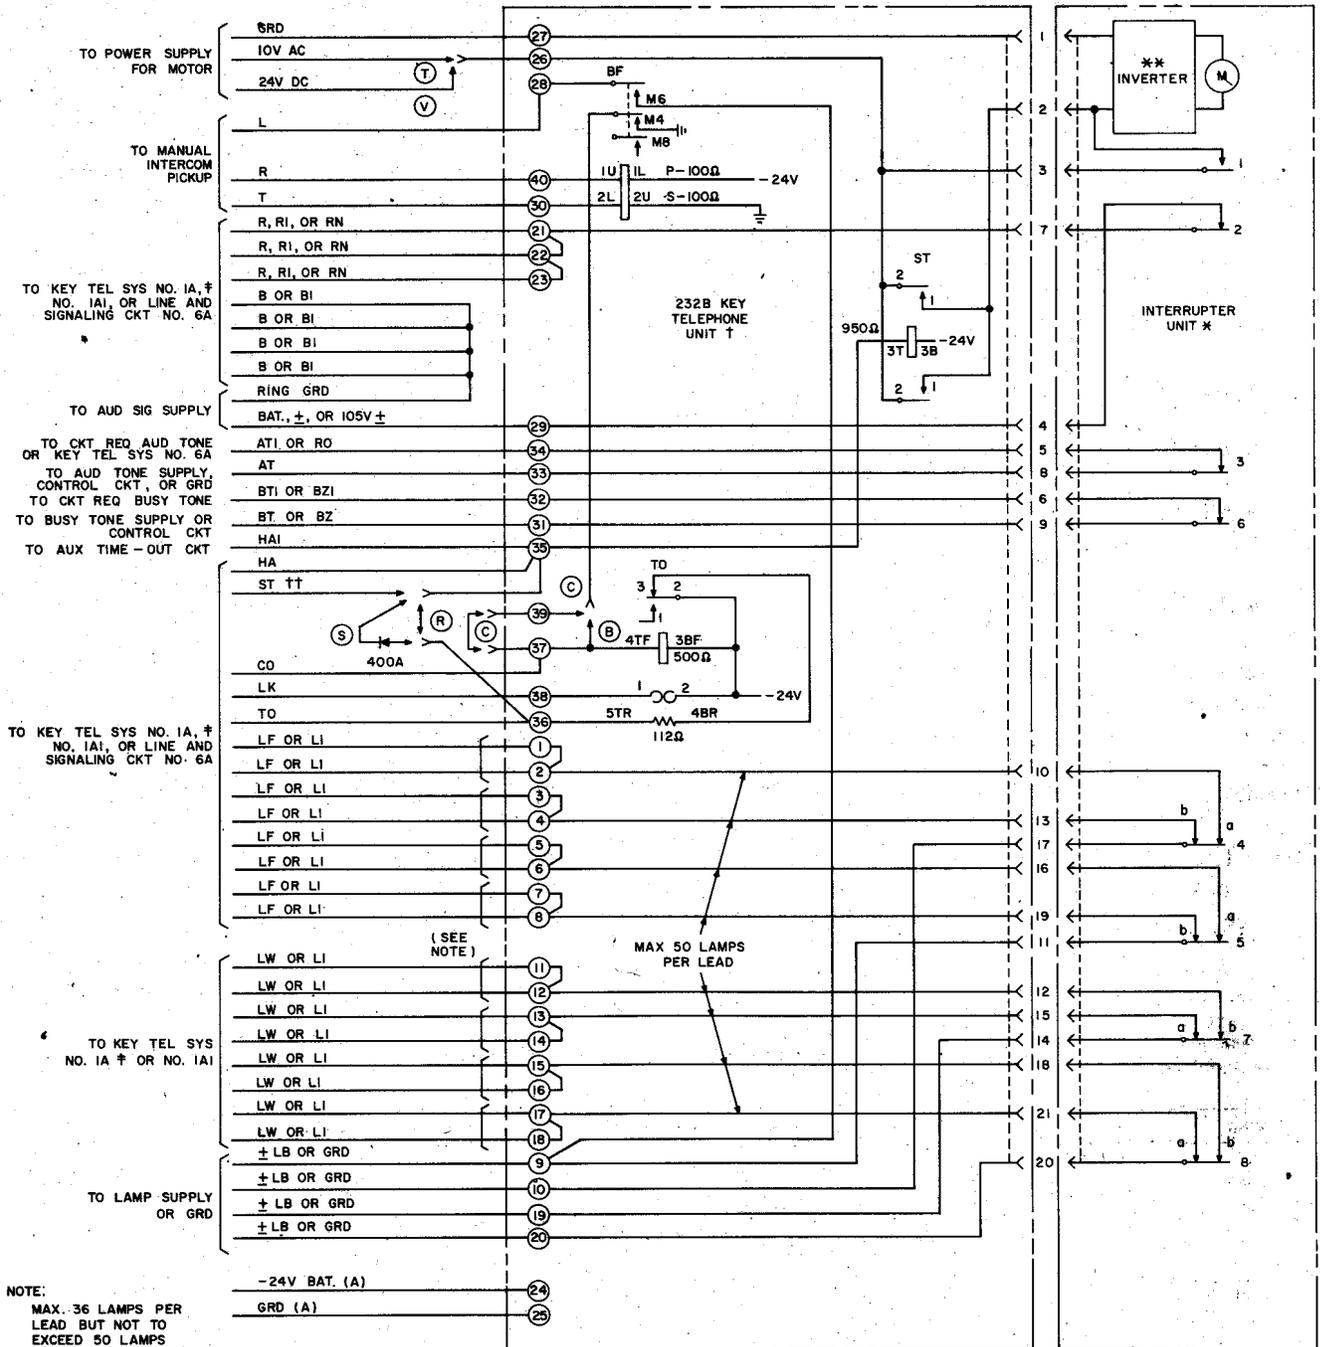

Fig. 2—Electromechanical Interrupter and Battery Feed Circuit
3.01 Fig. 2 shows connections to 232-type KTU.